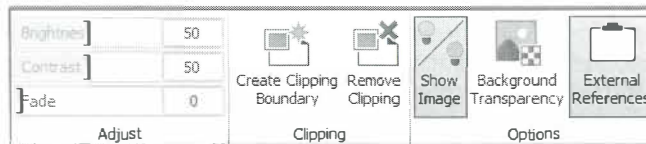

Figure 11-24
- Image panels include Adjust and Clipping, and an additional **Transparency** option, as shown in Figure 11-24.